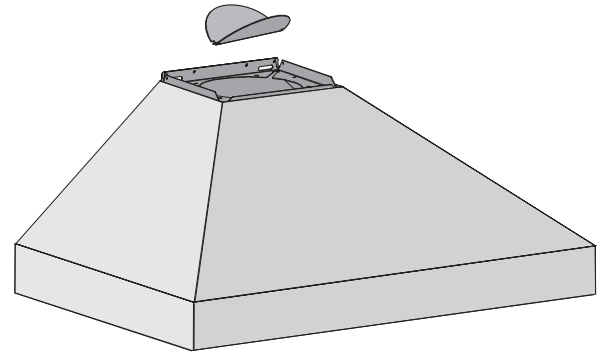

Figure 3
- Fix the damper flap on the top vent of the hood (see Figure 3).